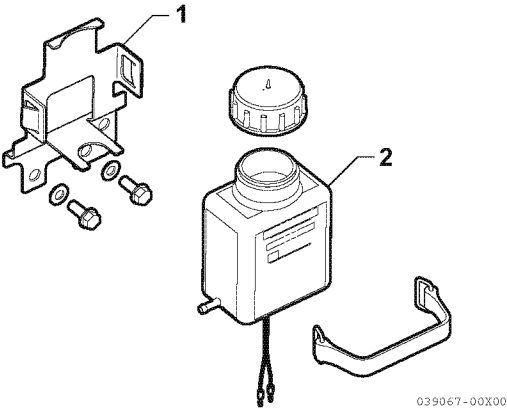

Figure 10
1. Remove the oil reservoir from the bracket (1, **Figure 10**).
3. Install the oil reservoir (2, **Figure 10**) in the bracket.